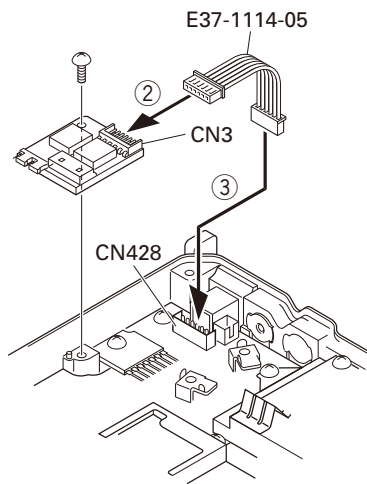

Fig. 3-2
3. Remove the 6-pin jumper connector inserted in the TX-RX unit (B/3) connector (CN428). (①)
4. Insert one side of the lead wire with connector (E37-1114-05) into the relay unit connector (CN3) (②) and the other side into the TX-RX unit (B/3) connector (CN428) (③).
5. Place the relay unit at the position shown in Figure 3-2 and secure it to the chassis with a screw. (④)
6. Remove the cap on the rear of the chassis by pushing it from the inside with your finger. (⑥)
7. Pass the 6-pin connector of the cable (E37-1113-15) through the chassis hole (⑤) and insert the bush into the chassis hole.
8. Rotate the bush of the cable 90 degrees counterclockwise as viewed from the rear of the chassis. (⑥)
9. Insert the 6-pin connector of the cable into the connector (CN2) of the KAP-2 relay unit. (⑦)